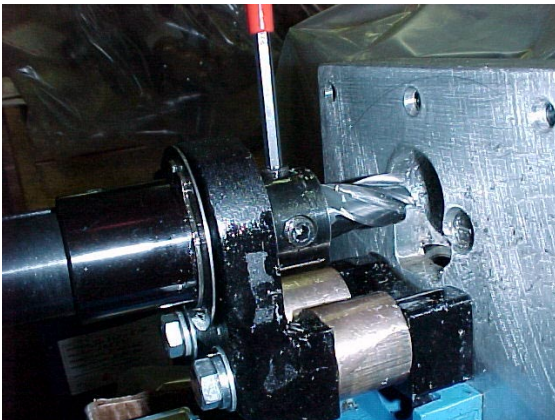

FIGURE 5
1. Mount the coring rotobroach into the boring tool chuck. Ensure that the rotobroach is positioned so that a portion of the set screw flat protrudes from the end of the chuck. Secure the rotobroach by tightening the allen set screw in the chuck. See FIGURE 5 and 8.